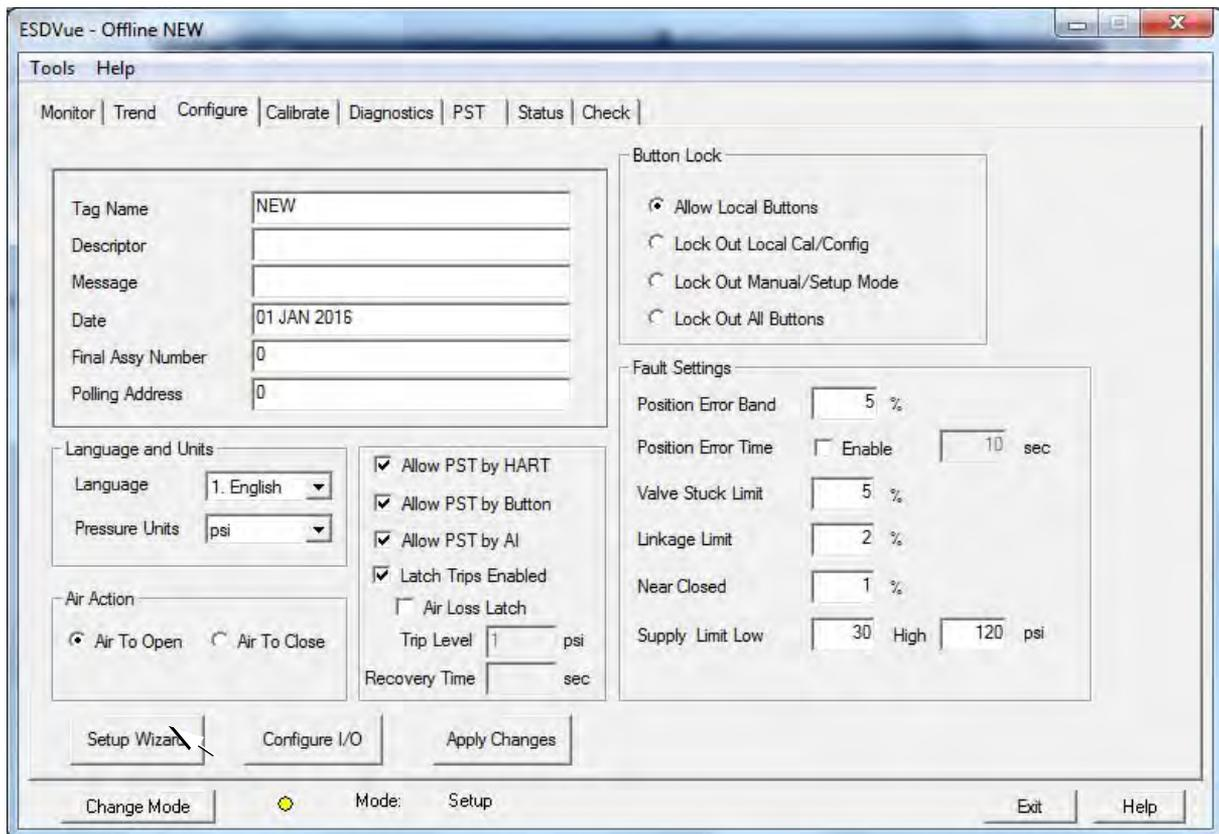

Figure 106 Starting the Setup Wizard
- Select **Setup Wizard** (Figure 106).